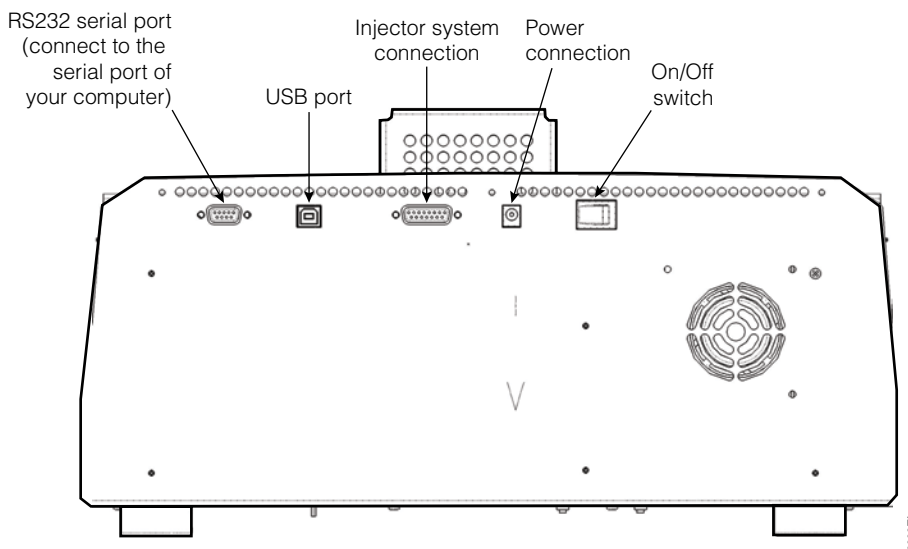

Figure 3. The back of the GloMax®-Multi+ Detection System Instrument. The USB port on the back of the instrument is for connecting to a computer.
1. To power up the instrument, connect the AC Power Adapter to the Power Connection port on the back of the instrument (Figure 3). Plug the Power Cord into the AC Power Adapter, then plug the Power Cord into a grounded power outlet.